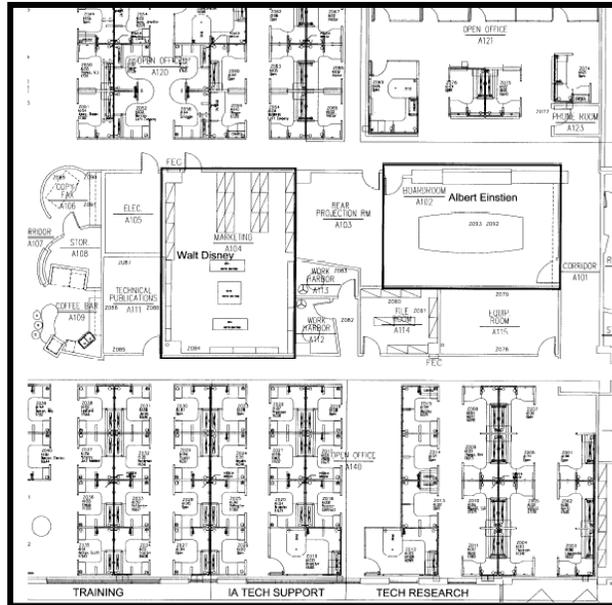

FIGURE 4: FLOOR BLUEPRINT
1. **Floor Diagrams.** Before starting the site survey locate a set of building blueprints; an example is shown below in Figure 4. If no blueprints are available, prepare a floor plan drawing that depicts the location of walls, doors, walkways, etc.